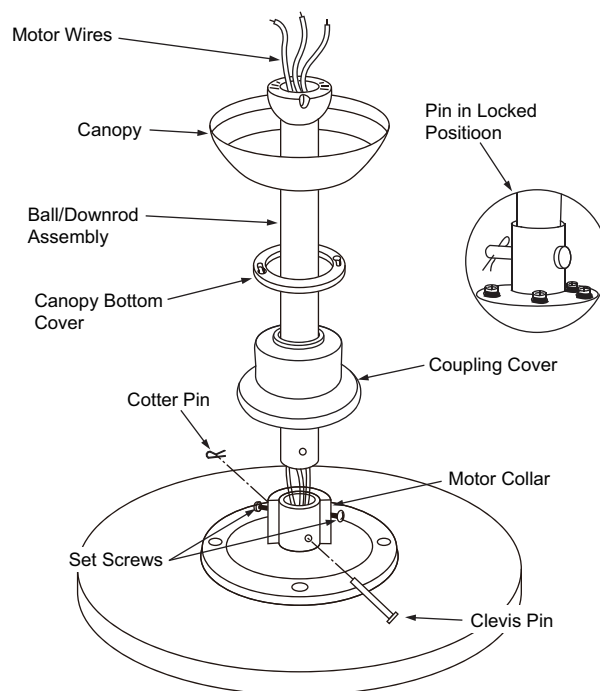

Figure 5
1. Remove the clevis pin, cotter pin and set screws from the top of the motor assembly. (Figure 5)
2. Route wires exiting from the top of the fan motor through the coupling cover, canopy cover, canopy and then through the ball/downrod. (Figure 5)
3. Align the holes at the bottom of the downrod with the holes in the coupling on top of the motor housing (Figure 5). Carefully insert the clevis pin through the holes in the collar and downrod. Be careful not to jam the clevis pin against the wiring inside the downrod. Insert the cotter pin through the hole near the end of the clevis pin until it snaps into its locked position, as noted in the circle inset of Fig. 5.
4. Tighten two set screws at top of the fan motor collar firmly and evenly. (Fig. 5)